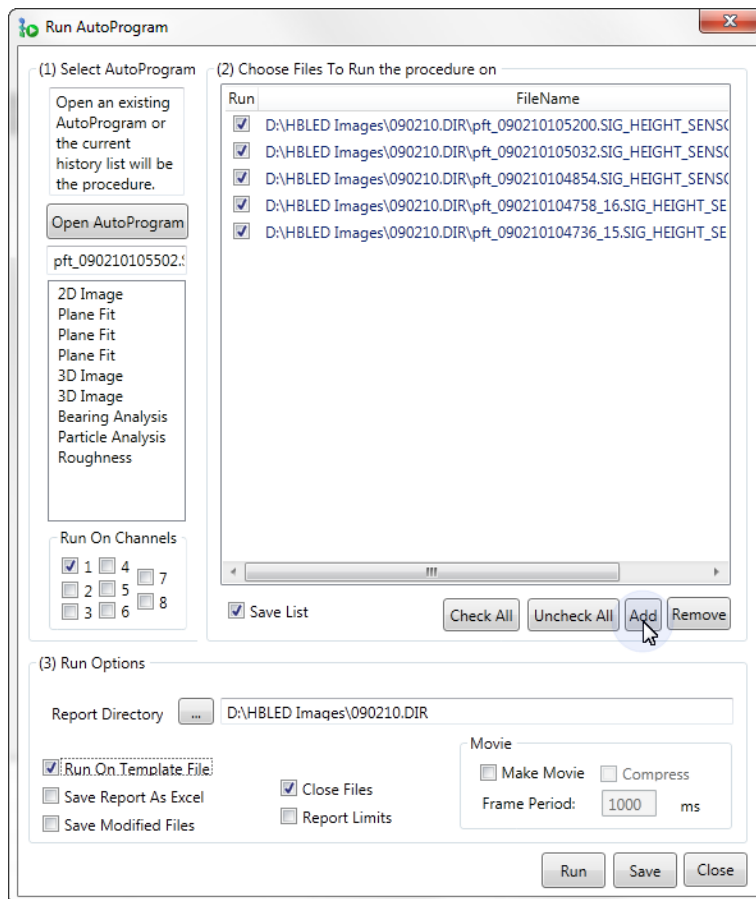

Figure 4.14b: The *Run AutoProgram* window
2. This opens the **Run AutoProgram** window, shown in Figure 4.14b.
8. The **Run AutoProgram** window, shown in Figure 4.14b, will display the files which are to be operated on. You may remove files from this list by highlighting the file and clicking **Remove**. You may also select or deselect a file by checking the **Run** box.